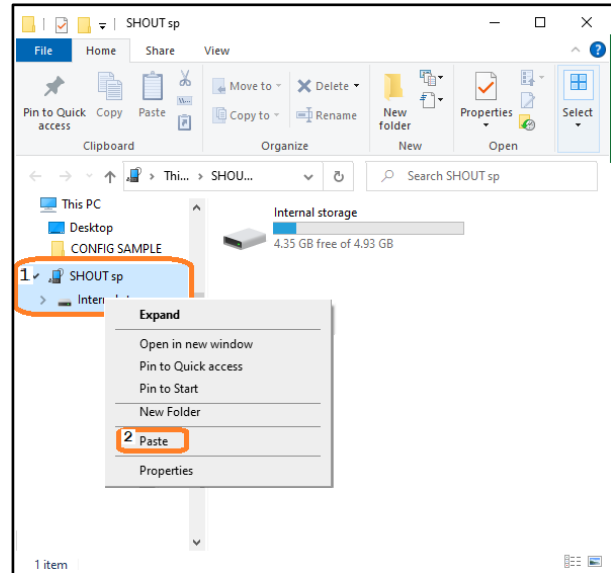

Figure 86: Copy the XML file
12. Right-click over the **Internal Storage** icon on the right side of the File Explorer window (see **Figure 86**).
A popup menu displays (see **Figure 86**).
13. Select **Paste** (see **Figure 86**).